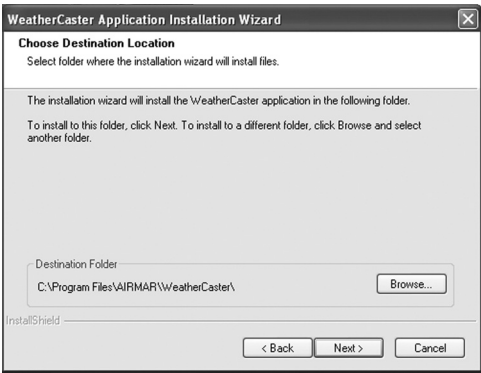

Figure 5. Choose Destination Location window
6. The Choose Destination Location window will appear (see Figure 5). Follow the screen prompts. Click Next to continue.